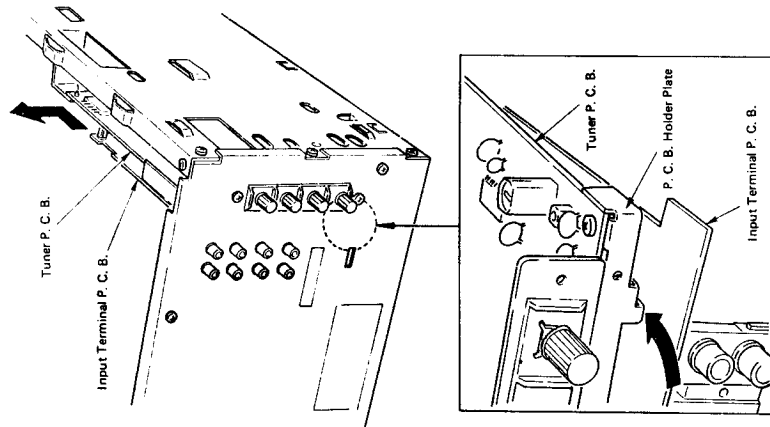

Fig. 5
- 4) First, with the input terminal P. C. board pushed into the set, detach the tuner P. C. board in the interior by lifting up on its back side. Be careful that the P. C. board holder plate does not get caught on the input terminal P. C. board. (Refer to Fig. 5).